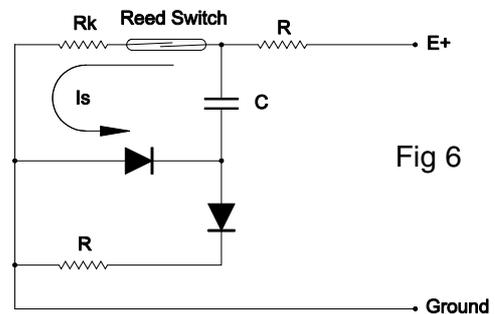

Fig 6
High and instantaneous current discharge from capacitors can damage reed switch contacts. Fig 6 sets out a typical circuit in which a capacitor (C) discharges directly across a reed switch. A surge current ( $I_s$ ) flows in the circuit, and unless limited by resistor ( $R_k$ ), may cause damage to the reed switch contacts. The value of the resistor  $R_k$  in ohms should equal the voltage across the capacitor divided by the current ( $I_s$ ), where ( $I_s$ ) is <100mA.